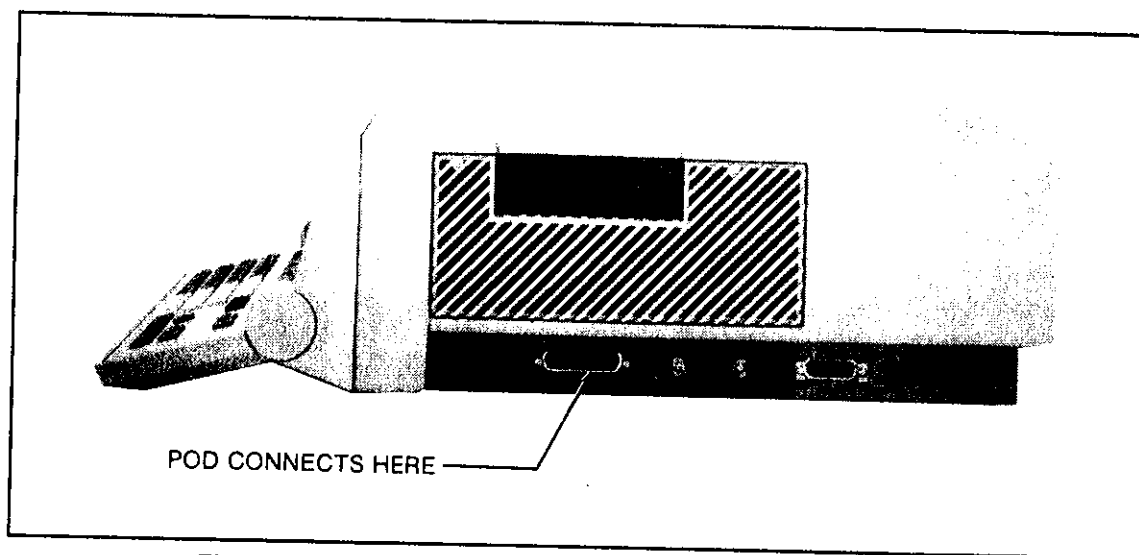

Figure 2-5. Connection of the Interface Pod to the Mainframe
2. Connect the Pod's round shielded cable to the Mainframe at the location shown in Figure 2-5. Secure the connector using the sliding collar.